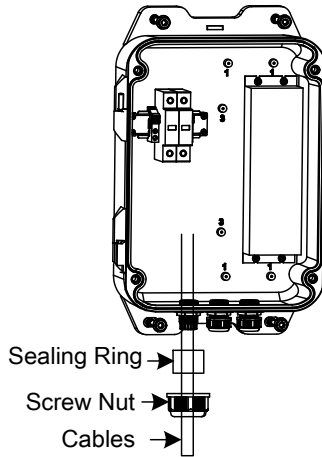

Figure 2-20 Seal the Cables
2. Lead the cables through the sealing ring, and the screw nut, as shown in Figure 2-20.